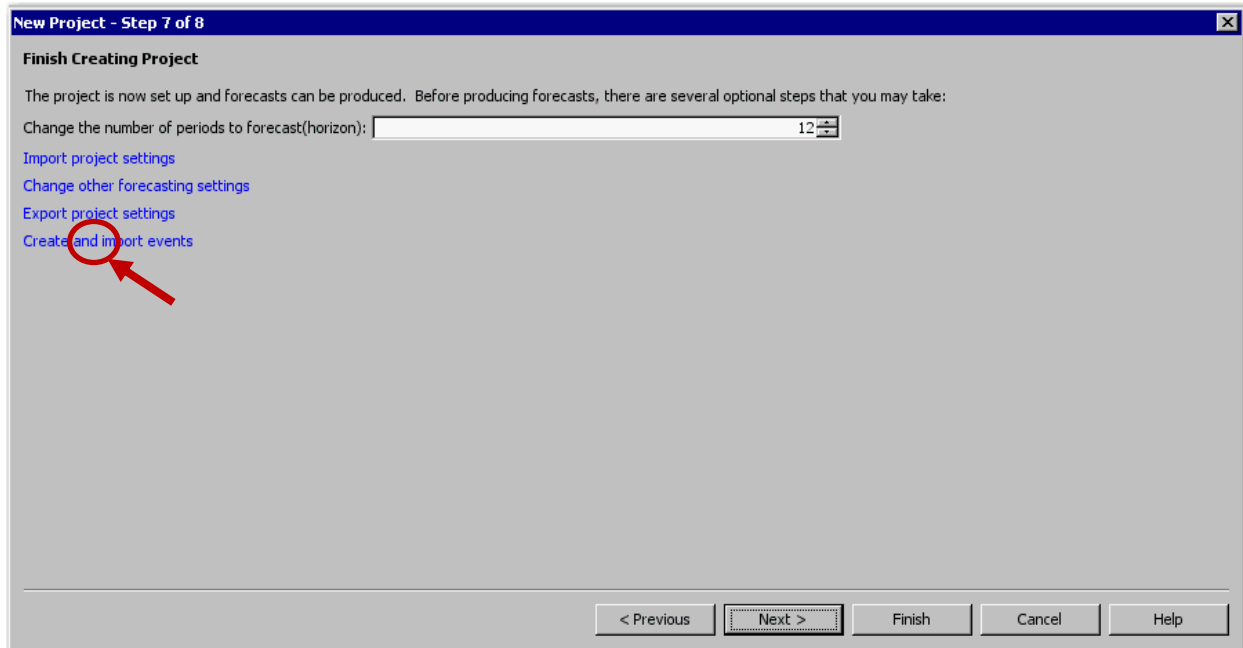
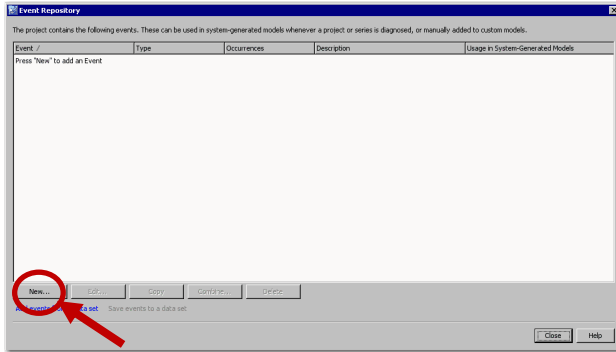

Figure 5.1: New Project Window
Figure 5.2: Event Repository Dialog Box
1. You can create new events in the **New Project – Step 7 of 8** dialog box (as shown in Figure 5.1), or you can create new events for an existing project by selecting **Project ► Event Repository** from the main menu. The **Event Repository** dialog box appears, as shown in Figure 5.2.